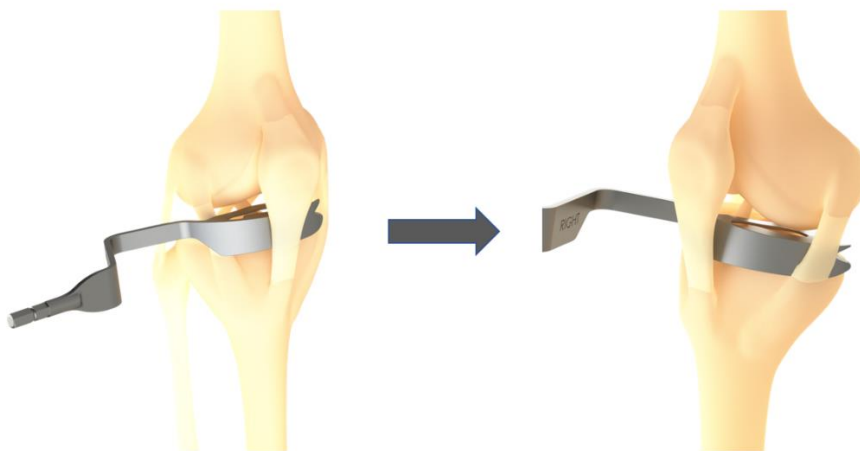

Figure 5. MCL Retractor Positioning
10. Guide the MCL Retractor around the posterior tibial plateau, ensuring the MCL Retractor is deep to and protecting the MCL during the resection process (Figure 5).